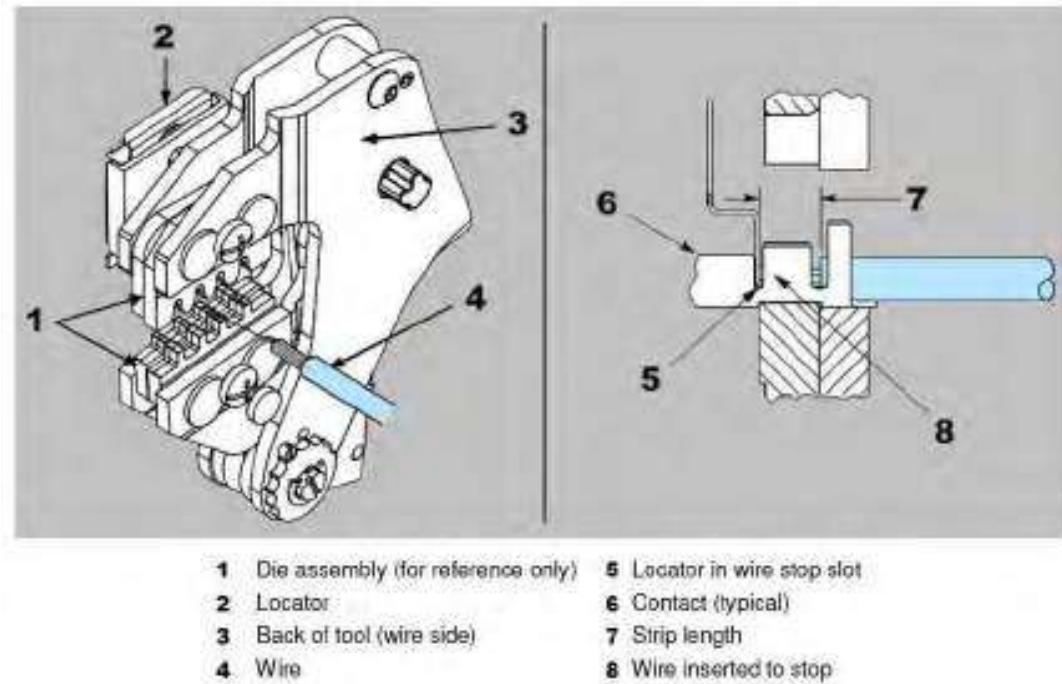

Figure 131
(6) Hold the tool so that the back (wire side) is facing you (Figure 131). Squeeze the tool handles together and allow them to open fully.